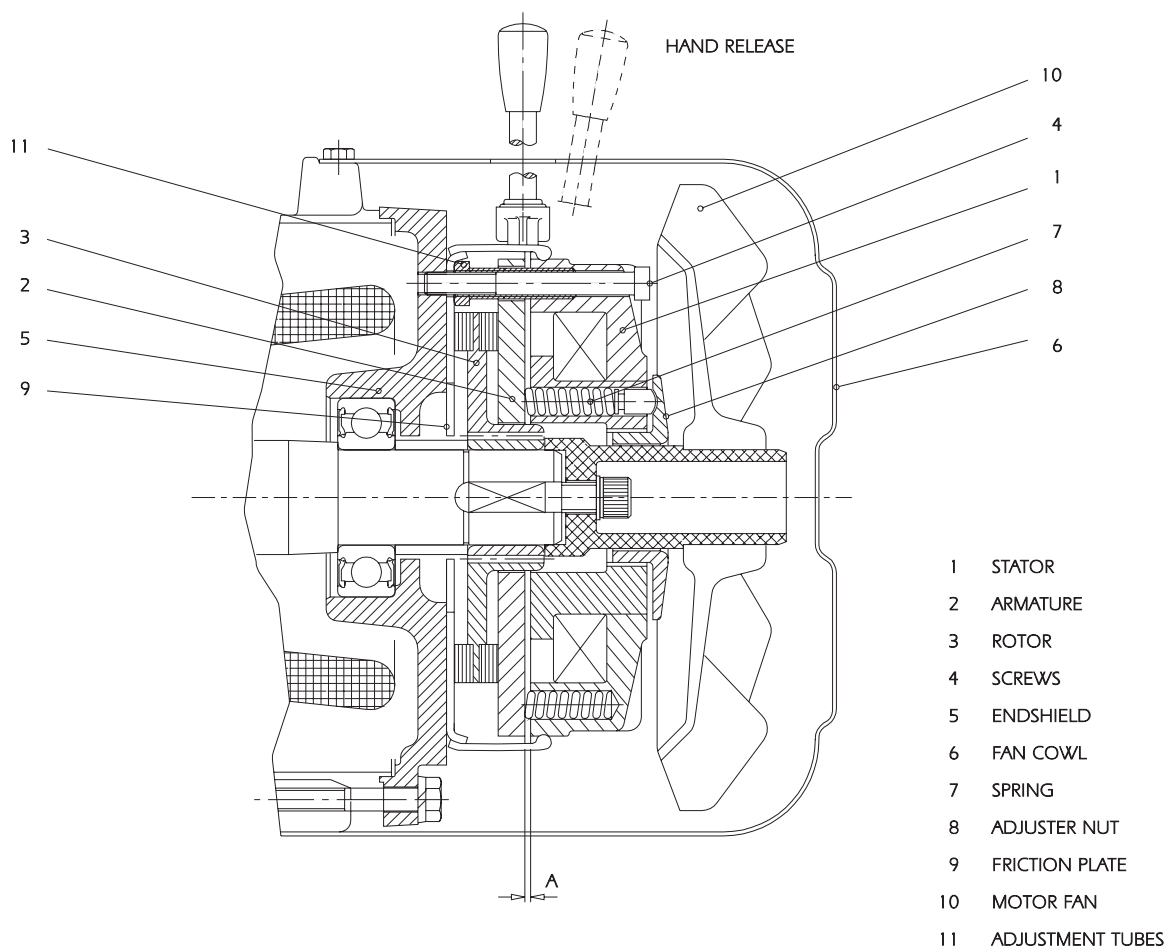

FIGURE 5
The fail safe brake (Fig 5) is factory fitted to the Radicon Electric Motor.
CHECKS AND ADJUSTMENTS (Fig 5)
- 2 Check the maximum air gap 'A' (Fig 5), this must not be exceeded. Use a feeler gauge and check in three positions, ensuring the gap is even (see table 1).
The brake is supplied with nominal torque (table 1) set at the factory. This torque can be reduced by unscrewing the torque nut (8) (Fig 5) using a 'C' spanner to approximately 60% of nominal torque. Torque reduction steps identified in table 1.